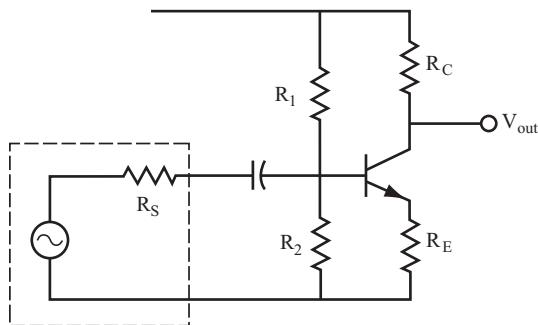

FIGURE 9.6
4 The amplifier shown in Figure 9.6 is the same type of amplifier that was discussed in problems 11–18 of Chapter 8, “Transistor Amplifiers.” It is called a *common emitter amplifier*.
- 5** In the circuit shown in Figure 9.6, an input signal applied to the base will be amplified.
- B. What is the voltage gain formula for the amplifier circuit shown in Figure 9.6? _____